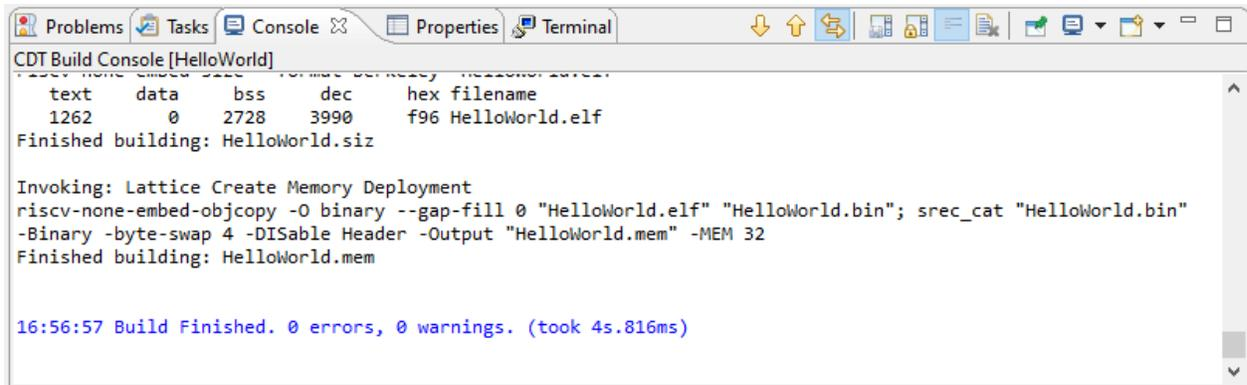

Figure 4.11. Build Result of HelloWorld C Project
7. Check the build result from the **Console** view (Figure 4.11).